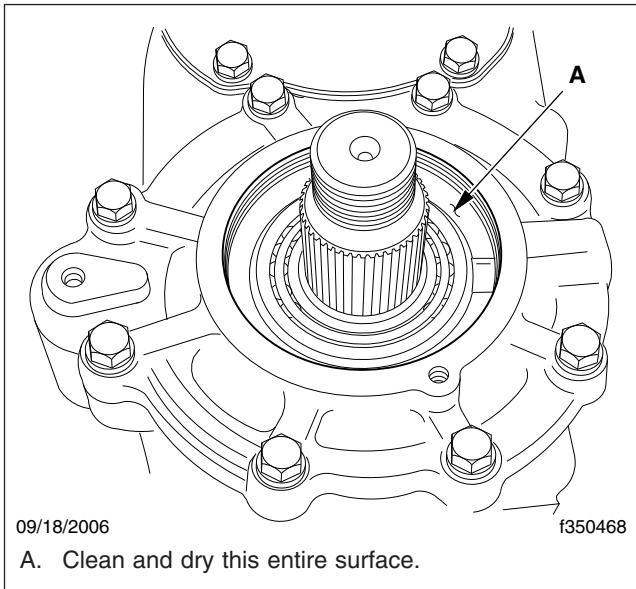

Fig. 2, Bearing Cavity Exposed
5. Using a spanner wrench, remove the threaded ring to expose the bearing cavity. See Fig. 2.
6. Using a suitable solvent, such as brake cleaner, clean the surface of the bearing cavity. See Fig. 2. Dry the surface, making sure no cleaning solvent remains.